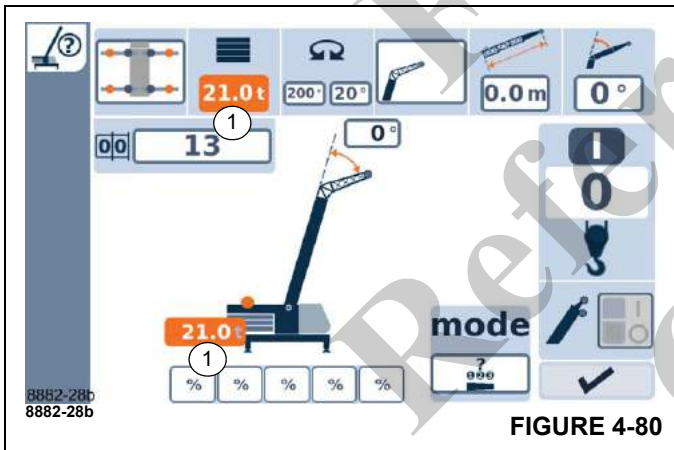

FIGURE 4-80
Shows the counterweight (1), (Figure 4-80) in tonnes (t).